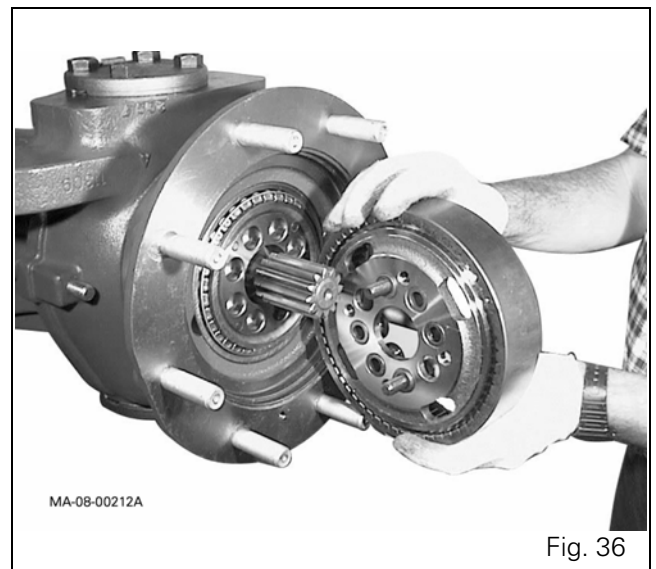

Fig. 36
35. Fit the ring gear carrier assembly on the wheel hub using the two shouldered rings as guide pins and tighten the corresponding screws until the ring gear comes into contact with the wheel hub (Fig. 36).